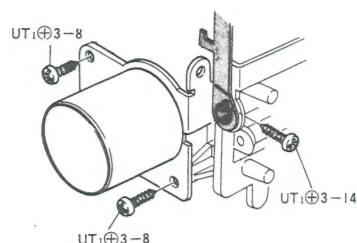

Fig. 12
- 2) Remove the 3 screws. (See figure 12)